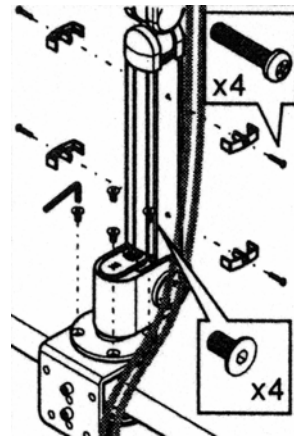

Figure 14: Mounting Arm Base to Clamp
- 8) Secure arm to the clamp with 4 flat head screws (Figure 14); tighten using the “L” shaped hex key.